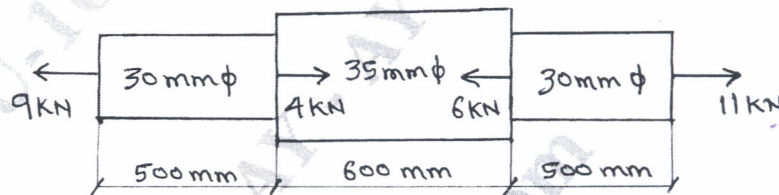

Fig.Q1(c)
- c. Find the elongation of the bar shown in Fig.Q1(c). Take  $E = 210 \text{ GN/m}^2$ .